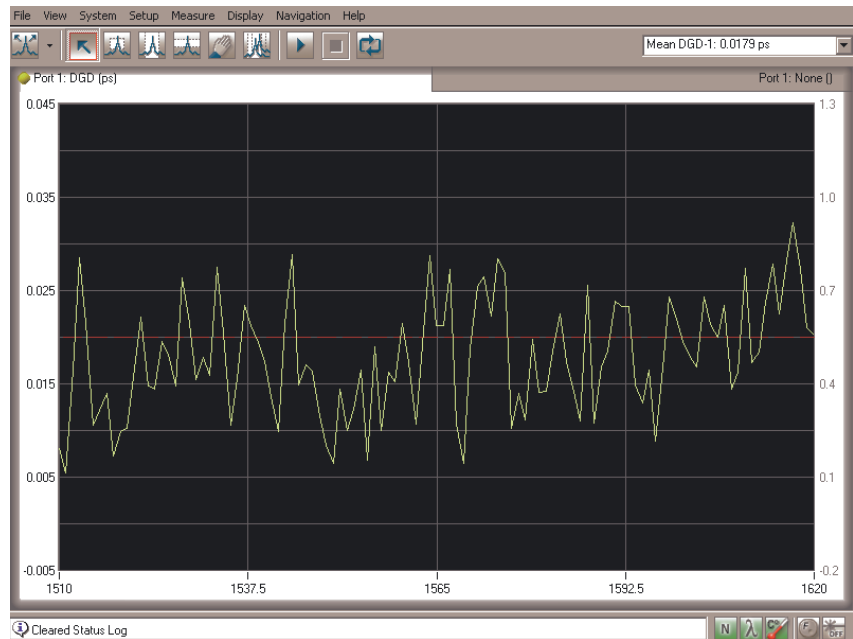

Figure 6 Sample DGD trace
- d Check the DGD curve. Since the normalization and measurement are made with the same connection and the patch-cord has little DGD, the displayed DGD should be close to 0 ps, as in Fig. 6. The variation from zero is a measure of the noise and any intrinsic offset and should be within a tolerance of 0.1ps. Note also that the average DGD, PMD, can be displayed in the Define Trace tab and in the Information Field in the upper right corner. The value here should be less than 0.07 ps.